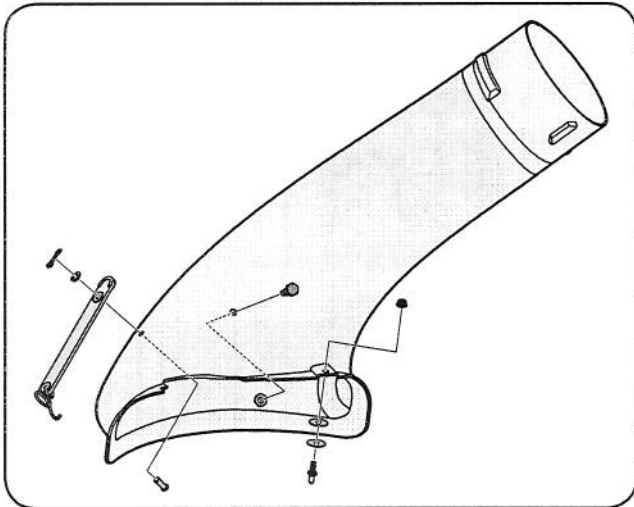

Figure 4-20
9. Install one of the rubber chute straps onto the chute elbow using one of the supplied clevis pins (711-05063), washer (736-0204) and Bow-tie cotter pins (714-04040) from hardware pack 689-00092B. See Fig. 4-20. Secure the end of the strap utilizing the hole furthest from the end, insert the torsion spring hook (732-04510A) into the other end.
10. Install the deck mounting pin (711-05049), along with two flat washers (736-0176), up into the chute elbow using hardware pack 689-00092B and secure with a flange lock nut (712-3027), as seen in Fig. 4-20.
11. Install the shoulder bolt (738-0754) into the chute elbow from the top side and secure inside the chute elbow using a flange lock nut (712-04063) from the same hardware pack (689-00092B). See Fig. 4-20.